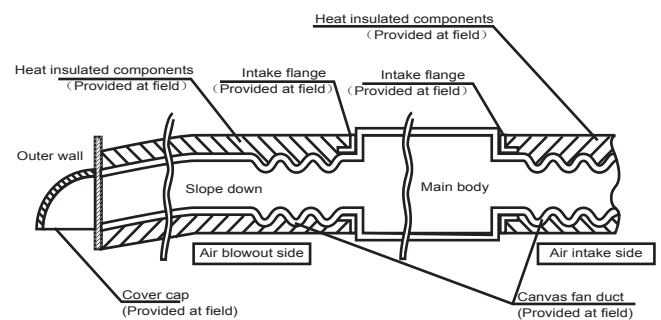

Fig. 7-2
- Connect the fan duct as the following. (Refer to Fig.7-2 ) (Air intake side)